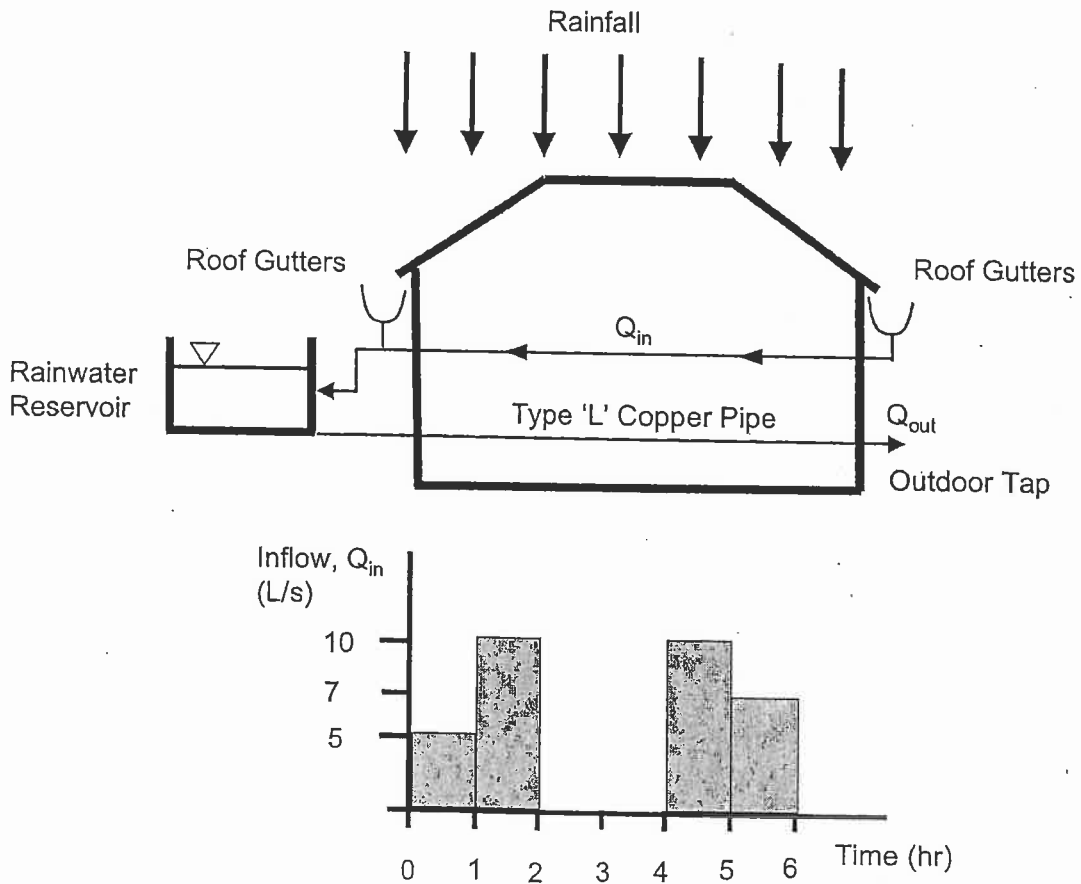

Figure 5. Rainwater harvesting system for single-family house.
6. A rainwater harvesting and re-use system in a single-family house is being designed and is indicated in Figure 5. The system consists of roof gutters that collect rainwater from the roof and convey it (Q_{in}) to a small reservoir at the side of the house. The reservoir is cylindrical with a 4 m diameter and has a free water surface. The reservoir is connected to Type 'L' copper pipe with a 3 inch (76 mm) internal diameter that conveys the rainwater by gravity to an outside tap (Q_{out}) for outdoor lawn and garden irrigation. The total length of the copper pipe is 25 m and has a 'C' factor of 120. The flow through the copper pipe is controlled by a tap. The flow through the tap is estimated with the valve equation
- The inflow hydrograph to the reservoir for a 6-hour period is indicated in Figure 5. Assuming that the tap is fully opened ($\tau = 1.0$) at time 2 hours and closed ($\tau = 0$) at time 4 hours, determine the design height of the reservoir to prevent overflow. The initial water depth in the reservoir is 0.0 m.